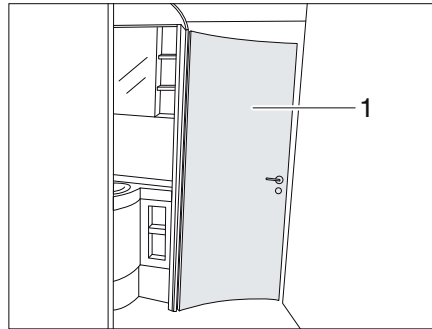

Fig. 224 Bath area
The door of the toilet area (Fig. 224,1) can be locked into a bath area in 1-3 different opening widths depending on the equipment. Depending on the selected opening width, different room segments can be combined with each other.
- ▷ The door of the toilet area (Fig. 224,1) may not be used as a partition during the journey.